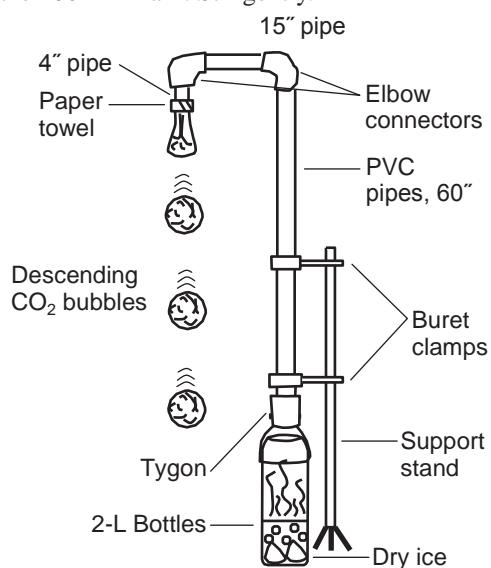

Figure 3.
4. Construct a large faucet head (like an upside-down “J”) with the PVC pipes and elbow joints (see Figure 3).
6. Use Tygon tubing to secure the bottom of the “faucet” over the 2-L bottle top (see Figure 3).